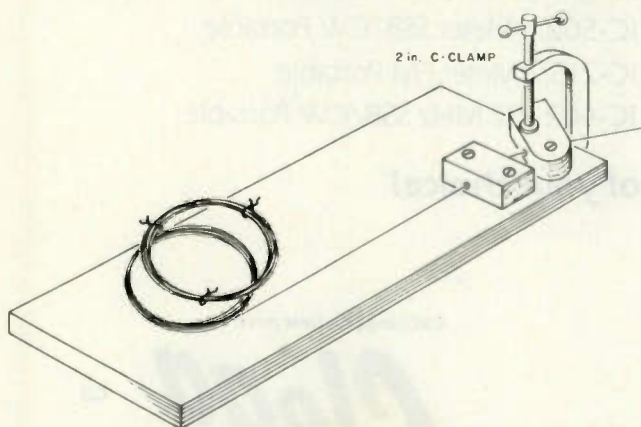

Fig. 1. Wire straightener construction: base—1/2" or 3/4" plywood; guide blocks—1" × 1" × 2" pine. Nail or screw to base.
6. Make a simple wire straightener from scrap wood as shown in Fig. 1. The guide holes are just big